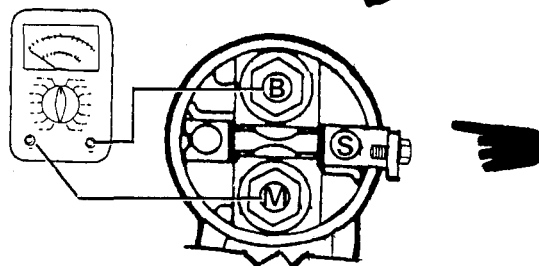

Figure 5-10. Testing Solenoid Switch
(6) Testing Brush Springs. Style II Starter. Firmly hold brush holder and push the brush against the brush spring until completely inside of its guide. If little or no resistance (tension) is present, spring should be replaced. Badly worn or pitted brush surface may indicate weak spring.
(7) Testing Solenoid Switch. Style I Starter. (see figure 5-10).
(a) Check to be sure plunger moves freely in coil. Measure pull-in coil current using an ammeter. See Test A, figure 5-10, current should not exceed 16 amps.
(b) Measure the hold-in current using Test B, figure 5-10. Current should not exceed 6 amps.
(c) Check total hold and pull current draw using Test C, figure 5-10. Total current should not exceed 25 amps. Replace defective solenoid switch.
(8) Testing Solenoid Switch. Style II Starter. (see figure 5-10).